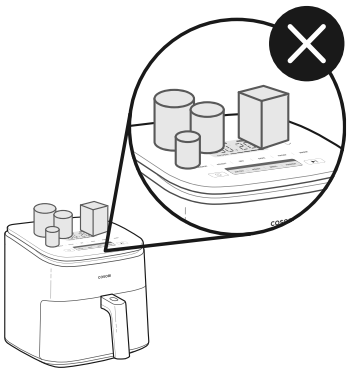

Figure 2.1
- **Do not** place anything on top of your air fryer. This will disrupt airflow and cause poor air frying results. [Figure 2.1]